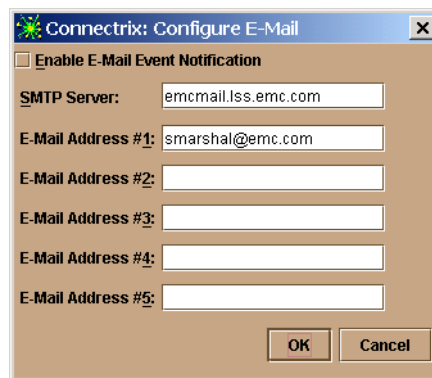

Figure 6-5 Configure E-Mail Dialog Box
1. From the Maintenance menu, select **Configure E-Mail**. This displays the Configure E-Mail dialog box (Figure 6-5).